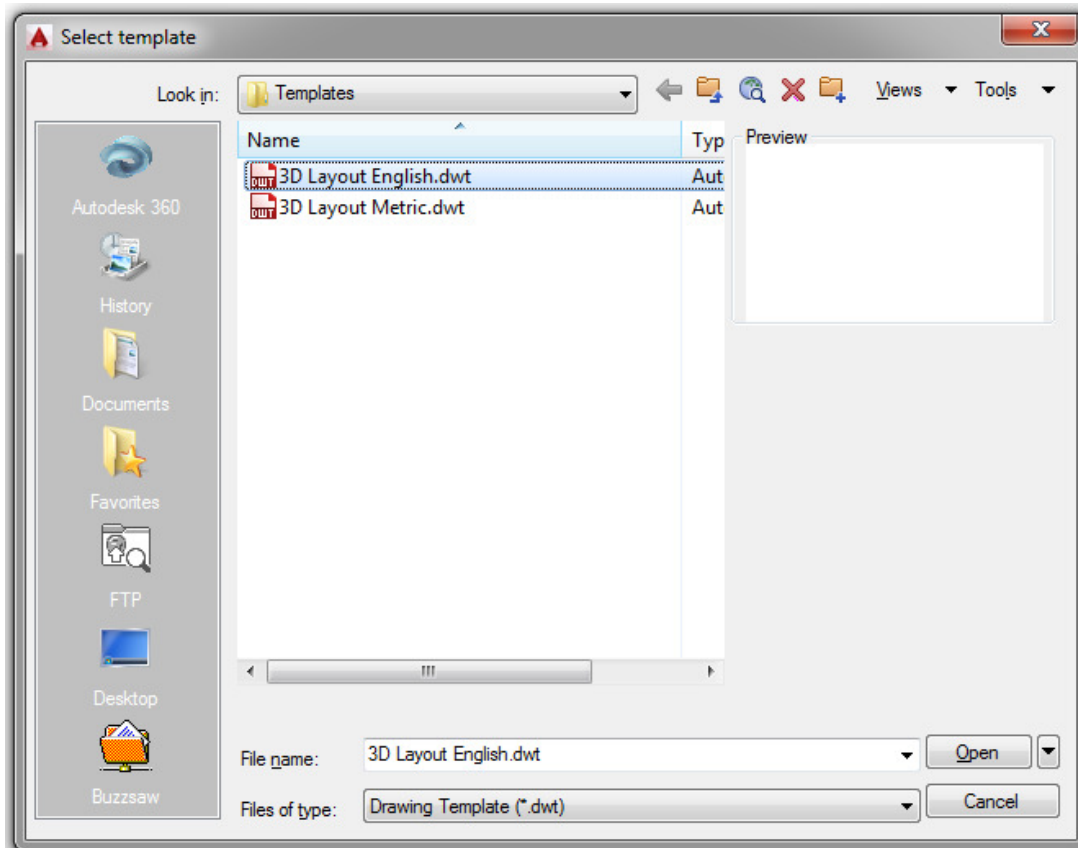

Figure Step 3
Step 3 In the Select template dialogue box, click the template file: 3D Layout English to highlight it. Then click the Open button. This will open AutoCAD's Graphic window. (Figure Step 3)